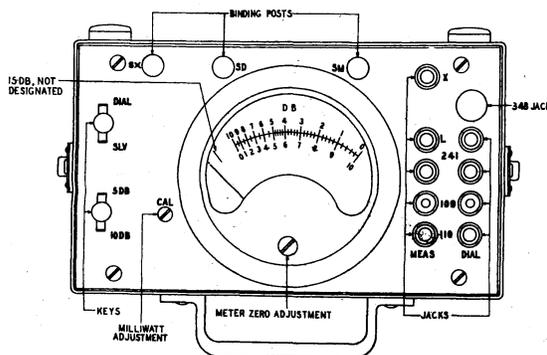

Fig. 1 - Face View of Measuring Set
2.02 The face view of the measuring set panel is shown in Fig. 1. The equipment as shown consists of a meter, two lever type keys, three (see Paragraph 1.03) binding posts, ten jacks and an adjustable resistance for calibration.
4.02 The small arrow at the left of the meter scale indicates the correct position for the pointer of the meter for zero current input. The only time when the meter zero adjustment screw (see Fig. 1) should be adjusted is when, with zero cur-